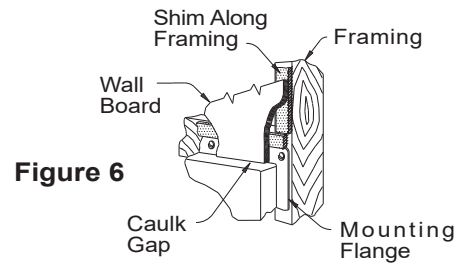

Figure 6
- 9. Finish wall board as detailed in Figure 6.